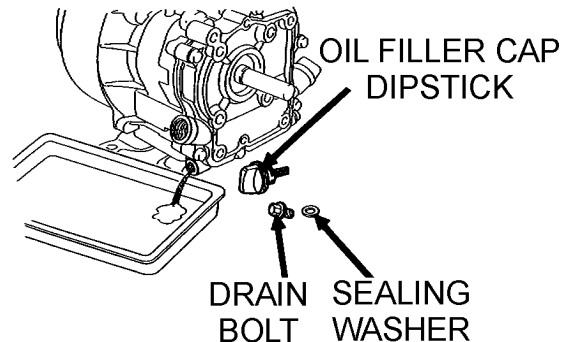

Figure 32. Draining Engine Oil
2. Drain the engine oil when the oil is warm as shown in Figure 32.